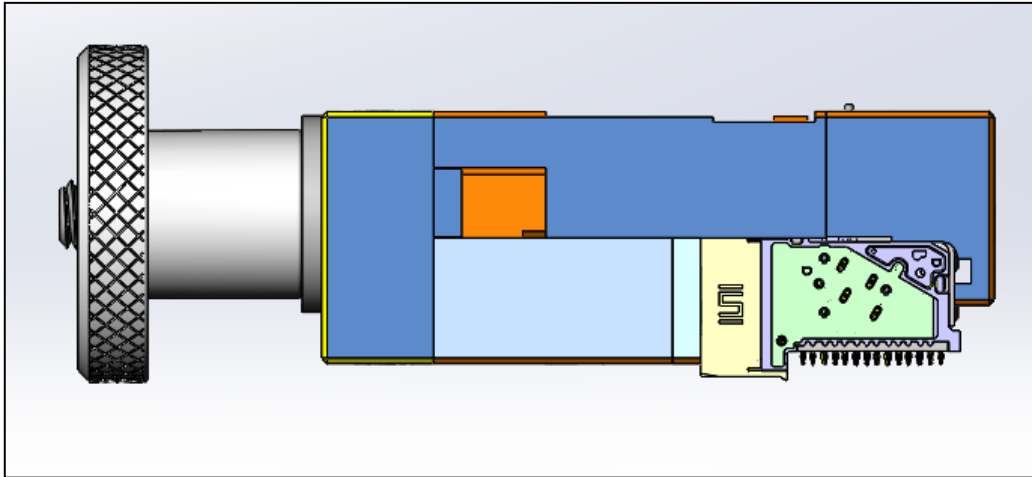

FIGURE 7
5. Place the open tool onto the connector, and while applying a small amount of downward force onto the connector, turn the knob clockwise until the top of the plastic stiffener tabs are even with the metal stiffener. Verify that the plastic stiffener tabs are aligned with the slots in the metal stiffener, and then continue to turn the knob clockwise until the stiffener is fully seated (bottomed) onto the connector body, shown in **Figure 7**.